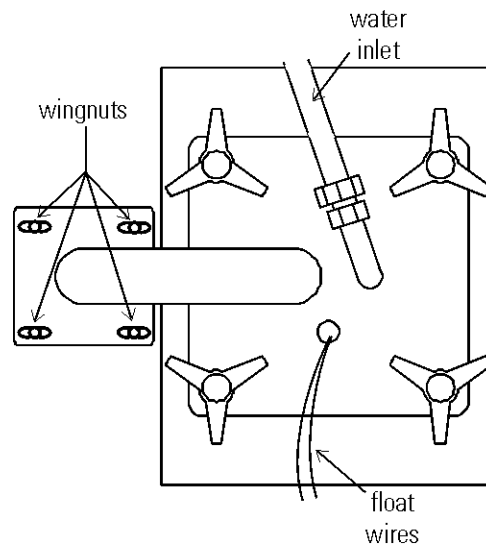

Figure 4-12. Access to Steam Generator
- When the steam generator has cooled, remove the four thumbscrews and wingnuts (Figure 4-12).